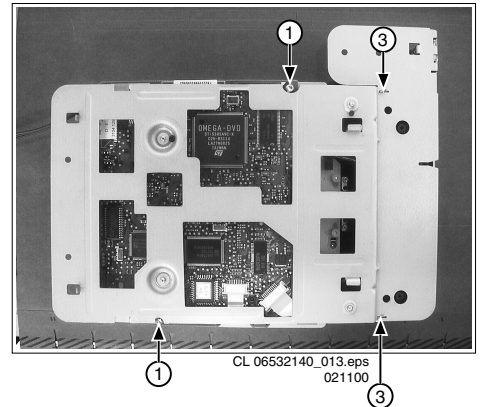

Figure 4-3
- Remove the top-cover of the DVD. Therefore unscrew two fixation screws [1] and un-twist the two lugs [3] on the bottom-side, **Fig. 4-3**. The top-cover can now be removed.